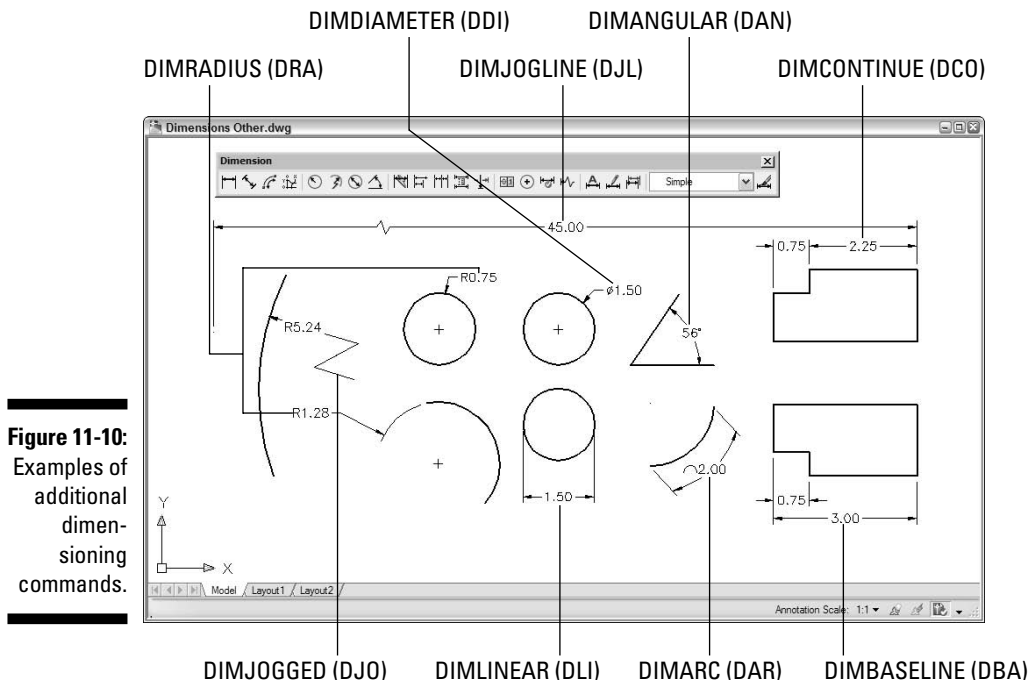

Figure 11-10: Examples of additional dimensioning commands.
- ✓ **DIMJOGLINE:** Jogged linear dimensions indicate that a dimension object does not show the actual measured distance that's indicated by the dimension value. The topmost dimension in Figure 11-10 displays a dimension value that would actually place the other end of the dimension well off the sheet.
Figure 11-10 shows some results of using some of the additional dimensioning commands (the command aliases are shown in parentheses).